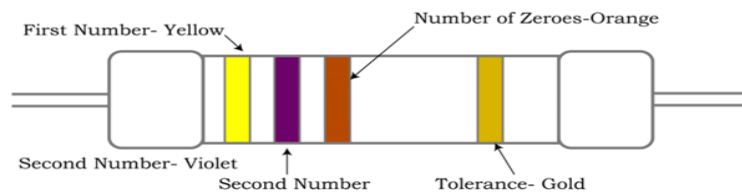

Fig. 3.4: Four band Resistor Specification
Step 2. First colour band of the resistor is considered as the first numeric digit of resistance value. For the resistor shown in Figure 3.4, the first band is yellow, so the first number is 4.